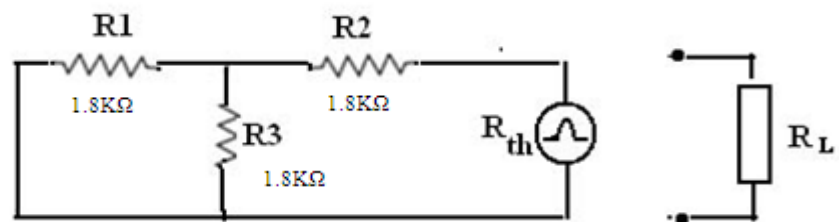

Fig 2.
2. Connect the circuit as shown in fig.2 and note the Thevenin's resistance  $R_{th}$  by means of a multimeter.